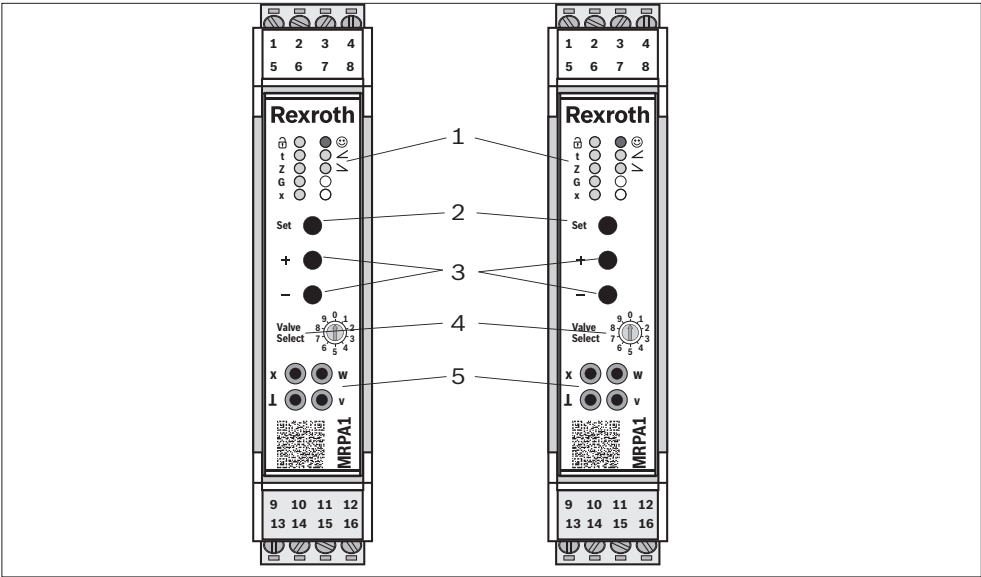

Abb. 4: Operating and display elements
The desired valve size has to be selected by means of the rotary switch, see Abb. 4 item 4. While you make the settings, test jack "v" outputs the selected rotary switch position as a voltage value in 100-mV increments.